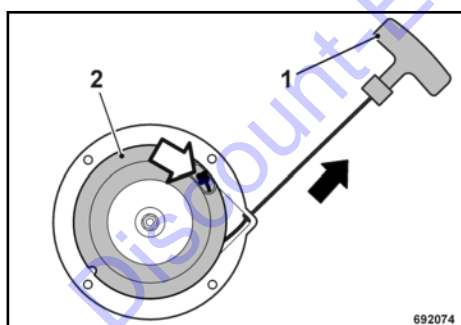

Fig. 56
Pull the starter rope with the starter handle (1) out completely ↗ Fig. 56.